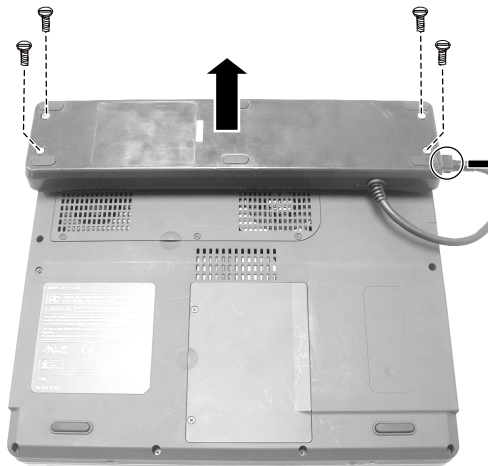

Figure 2-1 Remove the battery pack
2. Disconnect the battery power cable. (Figure 2-1)
3. Loosen four screws fastening the Battery pack, then lift it up. (Figure 2-1)